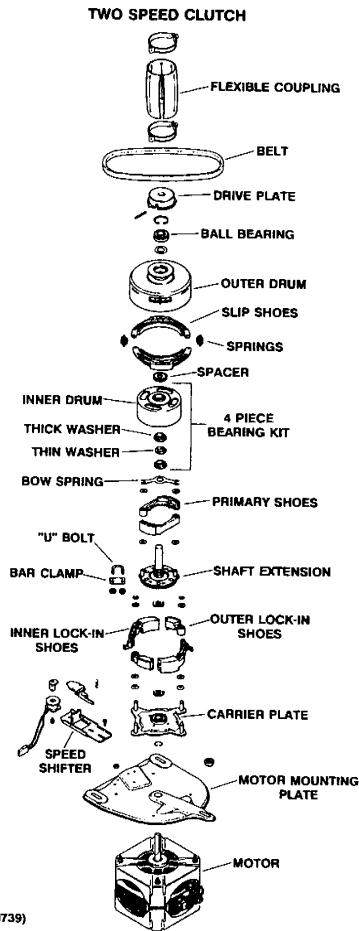

Figure 10
2. With the drive plate removed, the clutch may be disassembled. See Figure 10 for line up of clutch parts.